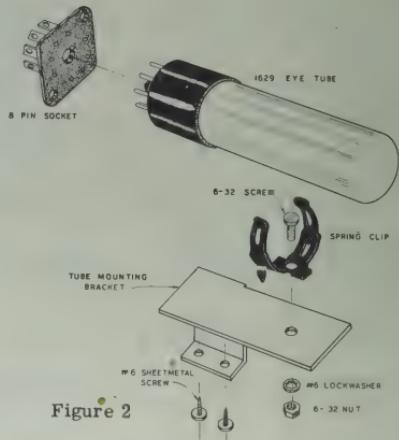

Figure 2
- ( ) Clip off the prongs of the spring tube holder as indicated in Figure 2.
- ( ) Connect one end of a 1 meg resistor (brown-black-green) to pin 3 (S1). Connect the other end to pin 4 (NS).